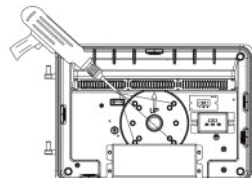

Fig. 1.3
3. Use an electric drill to drill the mounting holes on the mounting plate of the luminaire (Fig. 1.3).